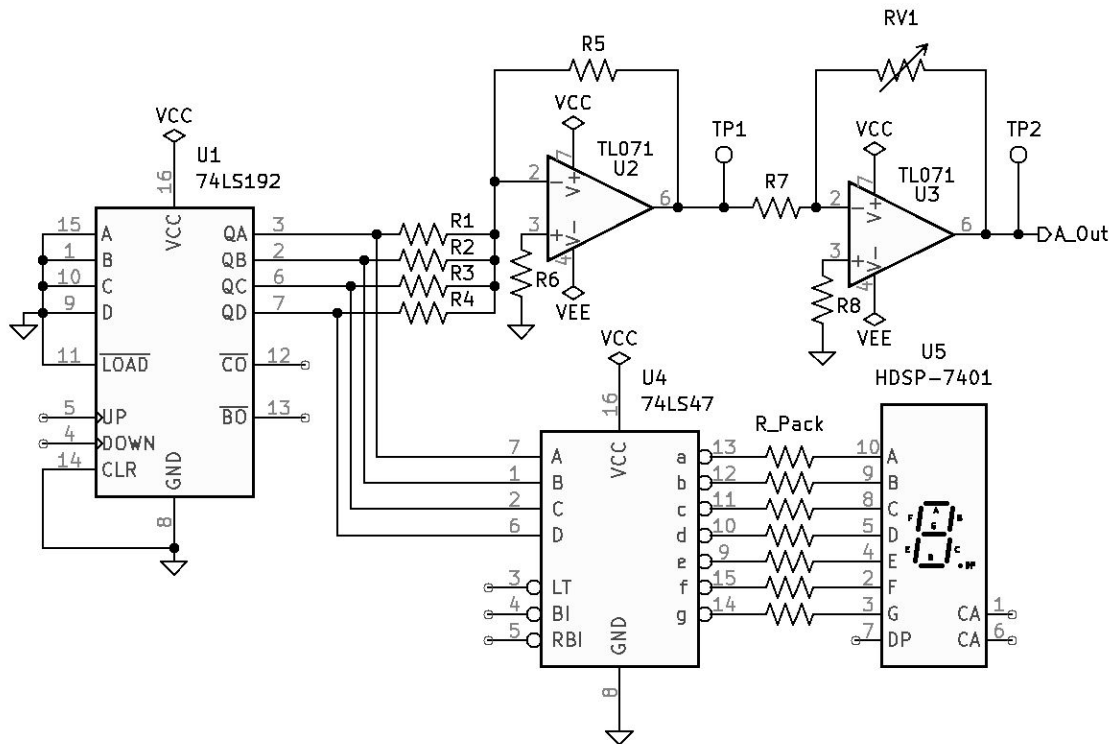

Figure 8.1: DAC Engineering Department Prototype Circuit.
1. The Engineering Department has sent you a DAC prototype circuit that they are working on. The DAC circuit is not working as expected. The Engineering Department needs you to analyze the circuit and make sure all the connections are correct. See Figure 8.1 *DAC Engineering Department Prototype Circuit* on page 79.